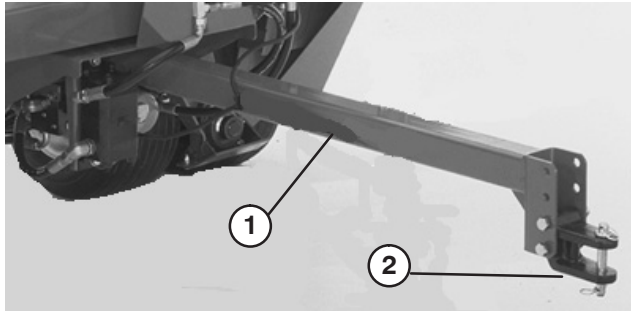

Figure 2
1. Install tongue into topdresser receiving tube and secure each end with a clevis pin and (2) lynch pins (Fig. 2 & 3).